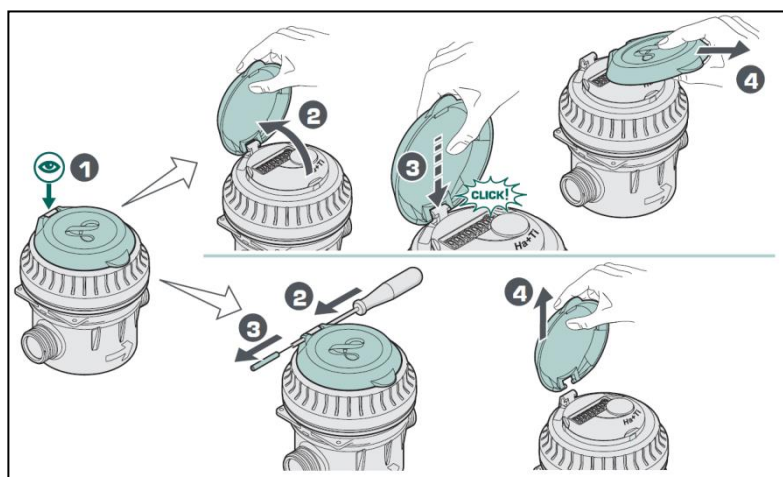

fig.5
- Remove the cover on the meter by hand or by pushing out the metal hinge pin (fig.5).